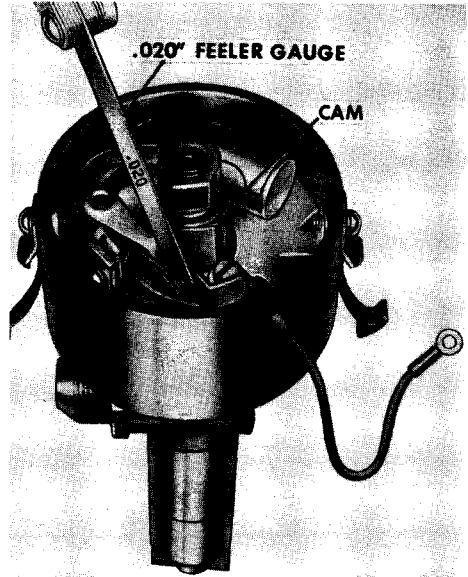

Figure 62
4. Check the distance between the two distributor points with a feeler gauge, Figure 62. The correct point gap is .020 inch. To decrease point gap, loosen the lock screw, insert screw driver in the adjusting slot and move stationary point away from the movable point.